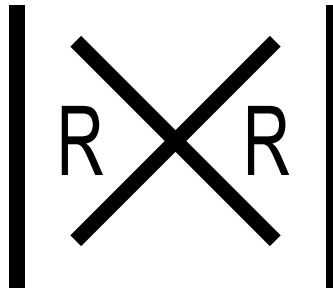

Figure 2.15
**Advance Warning Signs.** The round, black-on- yellow warning sign is placed ahead of a public railroad-highway crossing. The advance warning sign tells you to slow down, look and listen for the train, and be prepared to stop at the tracks if a train is coming. All passenger and hazmat carrying vehicles are required to stop. See Figure 2.15.